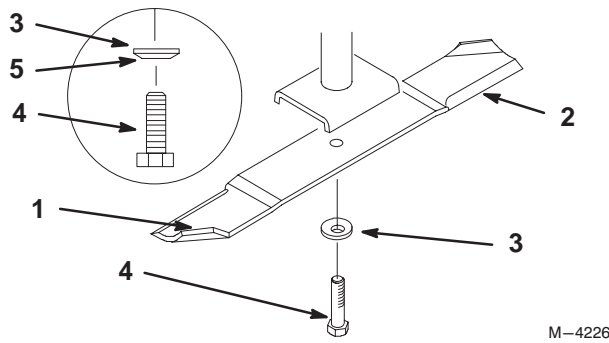

Figure 35
1. Hold the blade end using a rag or thickly-padded glove. Remove the blade bolt, spring disk and blade from the spindle shaft (Fig. 35).
2. Check the balance of the blade by putting it on a blade balancer (Fig. 34). If the blade stays in a horizontal position, the blade is balanced and can be used. If the blade is not balanced, file some metal off the end of the sail area only (Fig. 35). Repeat this procedure until the blade is balanced.
1. Install the blade onto the spindle shaft (Fig. 35).
2. Install the spring disk and blade bolt. The spring disk cone must be installed toward the bolt head. (Fig. 35). **Torque the blade bolt to 85–110 ft-lb (115–150 N•m).**